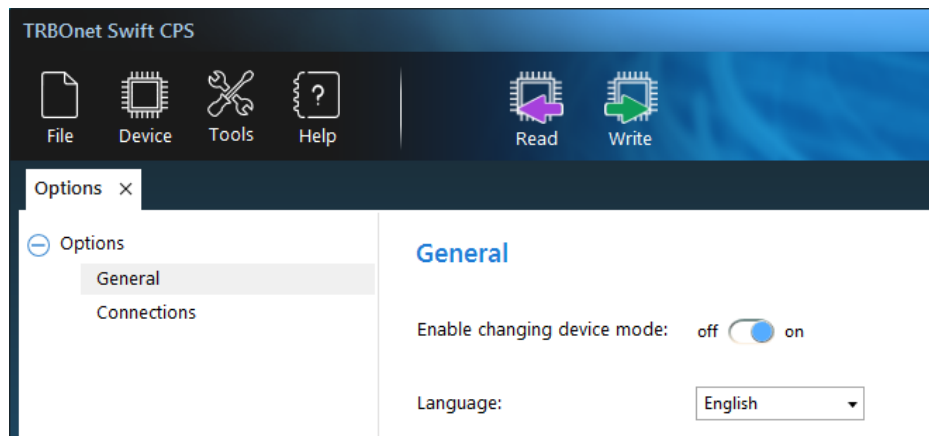

Figure 2: The device mode change is enabled
- a. Click **Options** on the **Tools** menu. In the right pane, make sure that the **Enable changing device mode** option is switched on (Figure 2).